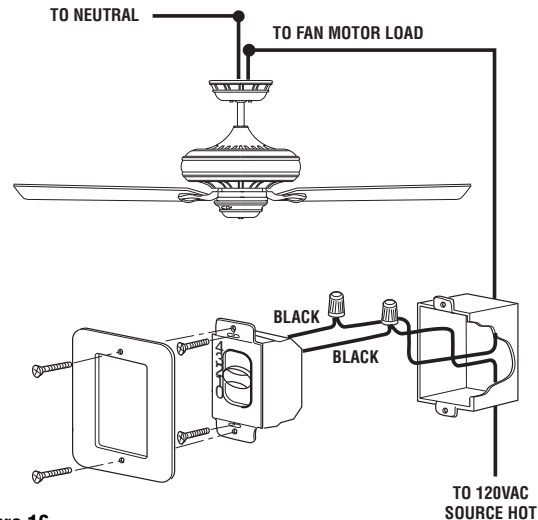

Figure 16
- 4. Connect one BLACK wire from the fan control to the fan/motor load wire with a wire connector (provided) (Figure 16).